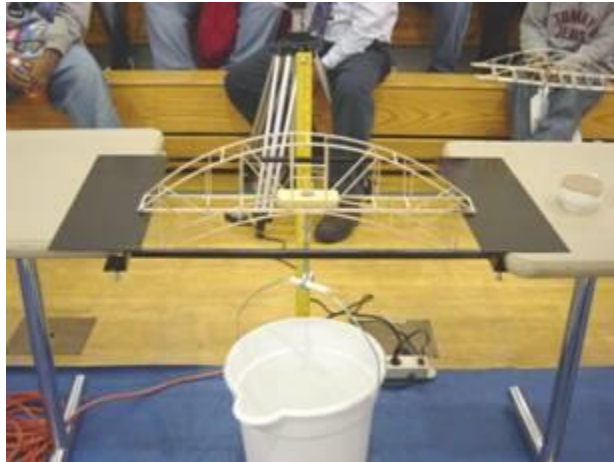

Figure 1. Model bridge being tested using a block of wood, threaded hook, and bucket of glass beads.
6. The bridge will be loaded on the roadbed of the bridge at the middle of the span (Fig. 1).